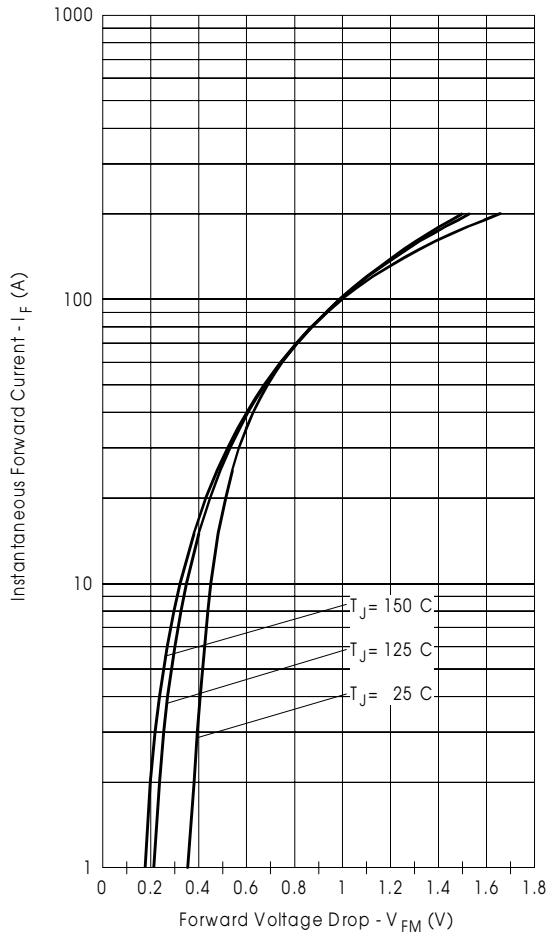

Fig. 1 - Maximum Forward Voltage Drop Characteristics
| V_{FM} Max. Forward Voltage Drop (1) * See Fig. 1 | 0.49 | V | @ 15A |